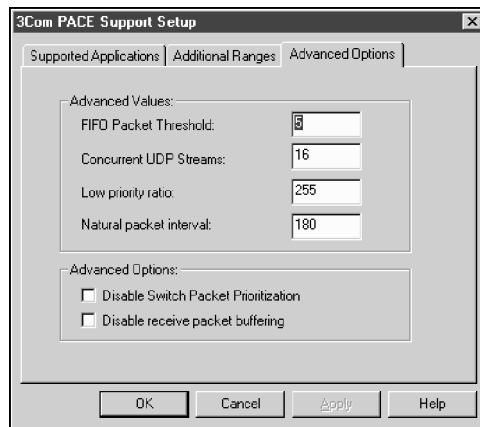

Figure B-2 PACE Advanced Options Tab
- To change advanced values, click *Advanced Options* to display the Advanced Options tab on the 3Com PACE Support Setup screen shown in Figure B-2.